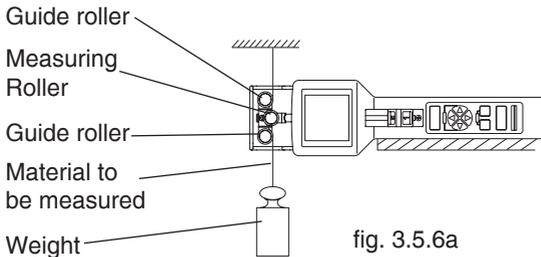

fig. 3.5.6a
- Prepare the measuring setup as shown in fig. 3.5.6a.